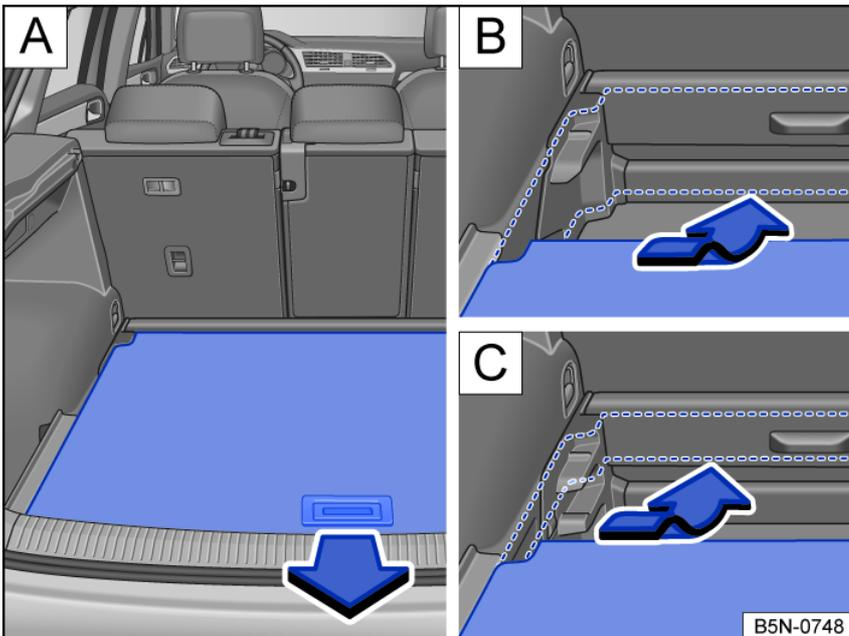

Fig. 153 In the luggage compartment: Adjust the height of the luggage compartment floor.
- Lift the luggage compartment floor and pull it backwards out of the guides on the sides of the luggage compartment *fig. 153* **A**.
- Insert the luggage compartment floor into the guides at the desired height and push it forwards as far as it will go *fig. 153* **B**, **C**.
- Pull the luggage compartment floor by the handle *fig. 153* backwards out of the guides on the sides.